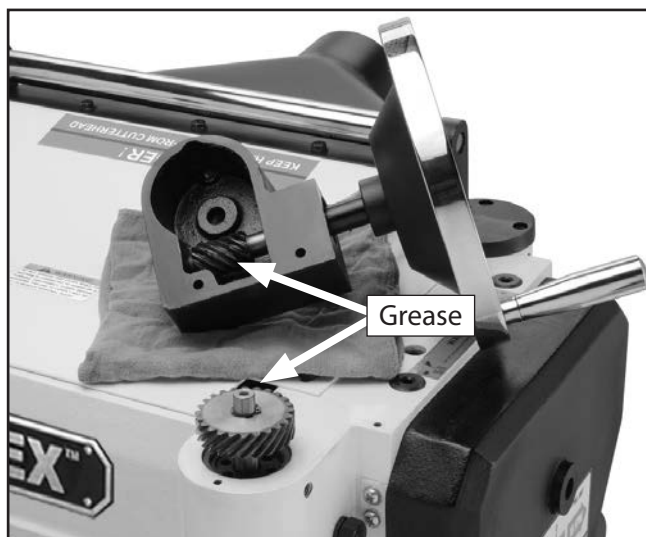

Figure 46. Worm gear lubrication.
- **Worm Gear:** Inspect the worm gear monthly and lubricate when needed. The worm gear box will need to be removed to perform the inspection (see **Figure 46**).